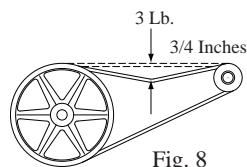

Fig. 8
- Belt tension.** Loosen the motor mount bolts and slide the motor back until the belt is properly tensioned. A 3 lb. force should deflect the belt 3/4 inches (see Fig. 8). Retighten motor mount bolts. **Do not adjust pulley to tighten belt.**